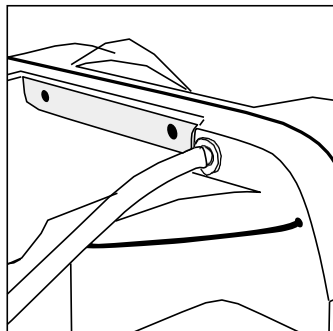

Figure 5
- C. Connect the humidifier connector tube to the oxygen outlet port, as shown in the Figure 5.